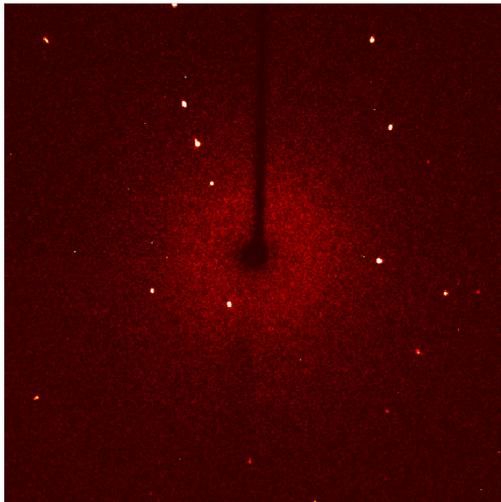
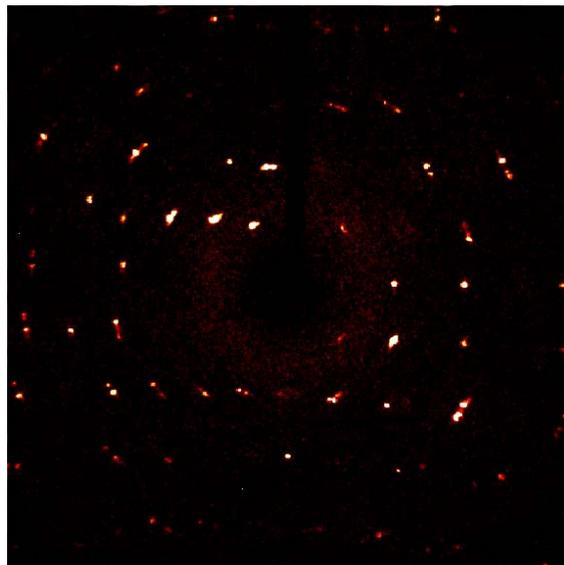

Figure 5.34 – A  $2^\circ$  phi scan on a good quality crystal. The spots' shapes are well-defined and the spots are well-separated.
Figure 5.38 – A 2° phi scan on a poor quality crystal. The spot shape is poor and some spots seem split.
6. Click **Drive + Scan**. The resulting  $2^\circ$  scan is shown in Figure 5.34. The spots are sharp and clean. There are no peaks that are very close together. Figure 5.38 shows a  $2^\circ$  scan with a bad crystal.
Figure 5.37 – A 360° phi scan on what is likely a poor quality crystal. The spot shape is poor and the spots tend to run together. The obvious bands on the image suggest that the crystal is nearly aligned along an axis; however, spots will always apparently run together in a nearly aligned crystal mounting. Figure 5.38 is much more convincing proof of a poor quality crystal.